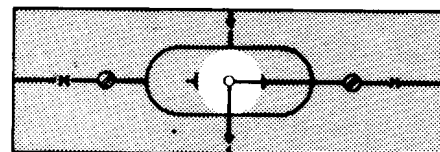

FIG. 8A
5. While observing the image of the flashlight beam on the viewing screen, turn the High-Low and Left-Right pointer knobs (Fig. 6) until the image is well centered between or symmetrically about the top and bottom lines of the elongated oval and the two short vertical arc lines. (Fig. 8a.)
spring loaded pointer to zero (0). Check the flashlight image on the viewing screen, making sure it is still centered as described in paragraph 5 and shown in Fig. 8a. **DO NOT DISTURB** the Left-Right knob position on its shaft.
The two short arc lines together with the horizontal sides of the elongated oval are used to locate the flashlight image when calibrating the tester for floor slope, or when checking tester side aim calibration. See Fig. 8a.
4. Look in the view window of the Tester and adjust the High-Low and Left-Right knobs until the image on the screen is well centered between or symmetrically about the top and bottom lines of the elongated oval and the two short vertical arc lines. Fig. 8a. During this procedure be careful not to move the Tester sideways on the floor or track.